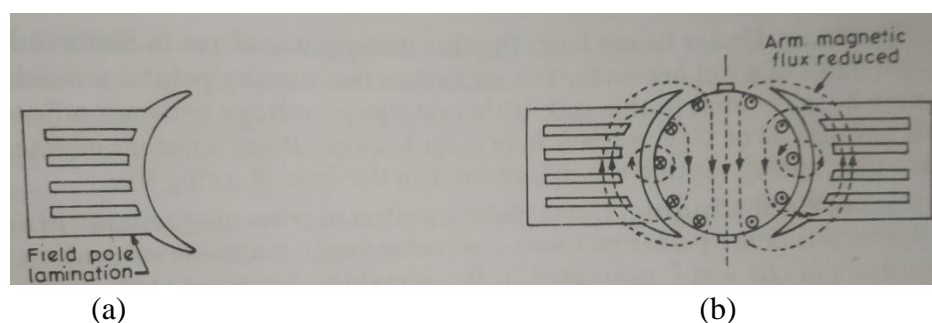

Fig. 1.12 (a) One field-pole lamination with four punched holes (b) Two-pole DC Machine having punched field-pole laminations.
- This is achieved by using field-pole laminations having several rectangular holes punched in the pole core as shown in fig. 1.12.